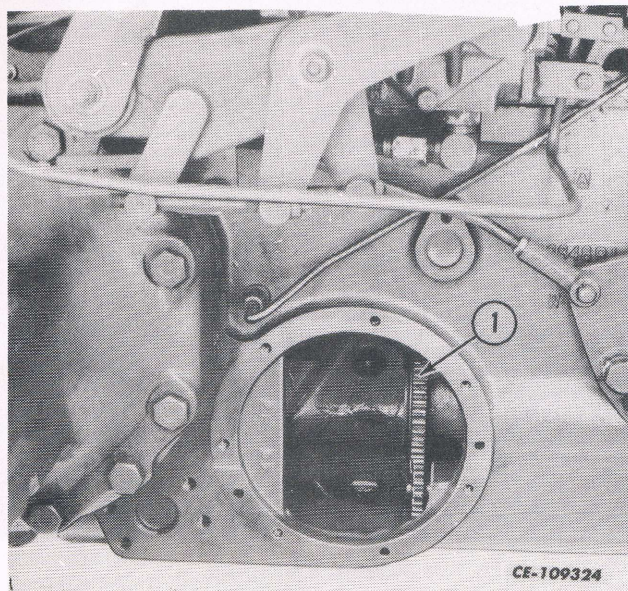

Fig. 12
9. Remove the snap ring and then remove the IPTO and hydraulic pump drive gear (1, Fig. 12) from the rear of the PTO shaft.